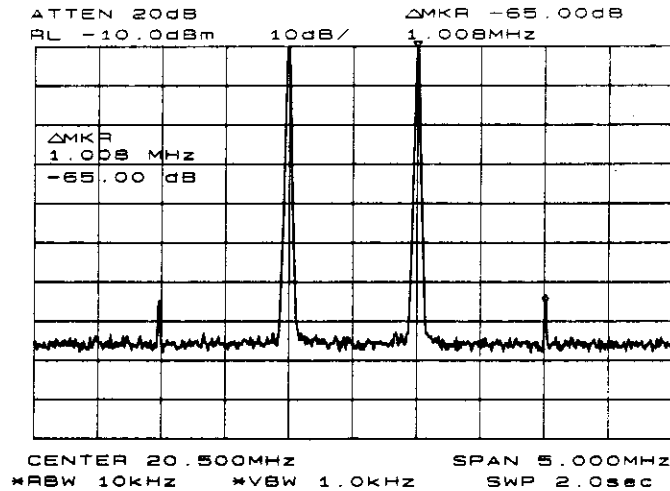

Figure 3-10. Intermodulation distortion measured in dBc.
- For this type of measurement, distortion-free dynamic range is an important consideration. To maximize such dynamic range, set the mixer input level to -30 dBm by pressing **AMPLITUDE**, **MORE 1 OF 3**, **MAX MXR LEVEL**, and enter -30 dBm. The spectrum analyzer automatically sets the attenuation so that the maximum signal level is seen at the input mixer when the signal is at or below the reference level. (See Appendix G.) You will hear the input attenuator click; notice that the value of the attenuator is now 20 dB. See Figure 3-10.
- Once a marker is activated, the marker-delta function activates a second marker and displays the difference between the two markers. Relative measurements can then be performed easily. To measure a distortion product, press **PEAK SEARCH** to place a marker on a source signal. To activate a second marker, press **MARKER DELTA** and **NEXT PK LEFT** or **NEXT PK RIGHT** to set the second marker on the peak of the distortion product that is beside the signal source, as in Figure 3-10. The difference in frequency and amplitude between the two markers is displayed in the active function block.